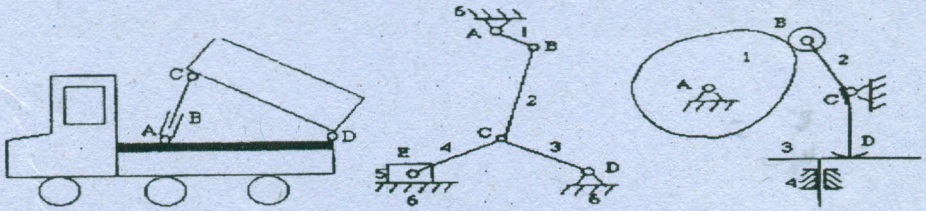

Fig.1
11. (a) (i) What is kinematic inversion? Explain the four different inversions of slider crank mechanism. (10)
- (ii) Determine the degree of freedom for following linkages. (Fig.1) (6)